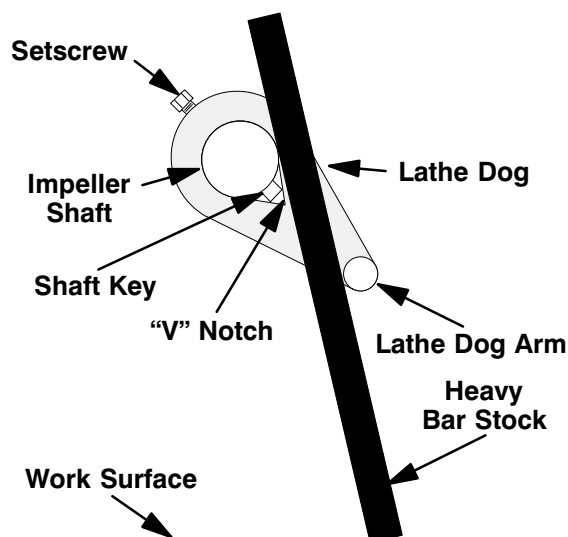

Figure 3. Blocking Shaft Rotation
Use a long piece of heavy bar stock and the lathe dog on the drive end of the shaft as shown in Figure 3 to block shaft rotation. **Use caution** not to damage the shaft or keyway.
Align the hole in the impeller washer (7) with the roll pin in the impeller and install the washer. Apply "Loctite Threadlocker No. 243" or equivalent compound to the threads of the impeller screw (30). Block impeller shaft rotation as shown in Figure 3 and torque the impeller screw to 200 ft. lbs. (27,6 m. kg.).